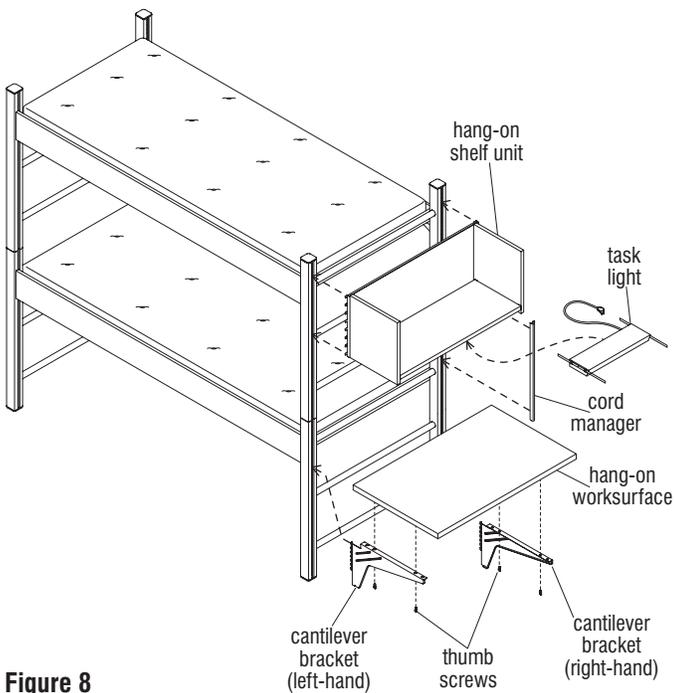

Figure 8
1. Hook the unit into the slots in the bed frame above a worksurface, or at any desired location. Mount both sides of unit at the same time and press down to securely engage mounting hooks into frame (Figures 8 & 9).
1. Locate and determine right- and left-hand cantilever brackets as illustrated (Figure 8).
into position, first tip the bracket at an angle to the bed frame and hook the top locking tab first. Then rotate the bracket down to allow other teeth into slots in bed frame and push down firmly to secure (Figure 8).
3. Place the worksurface on top of the cantilever brackets, align mounting holes of worksurface with those of brackets and secure using four thumb screws (Figure 8).
1. Task light (Figure 8) installs under hang-on shelf or hang-on flipper door unit. See instructions on page 18.
1. Hook the cord manager into the slots in the bed frame, below a task light, or any place electrical cords are present to be held in place (Figure 8).
2. Hide the cords by pushing them into the open edge of the cord manager (Figure 8).
5. Route power cord out of sight to a 115 volt grounded outlet. See page 15 and Figure 8 for **Cord Management** option.